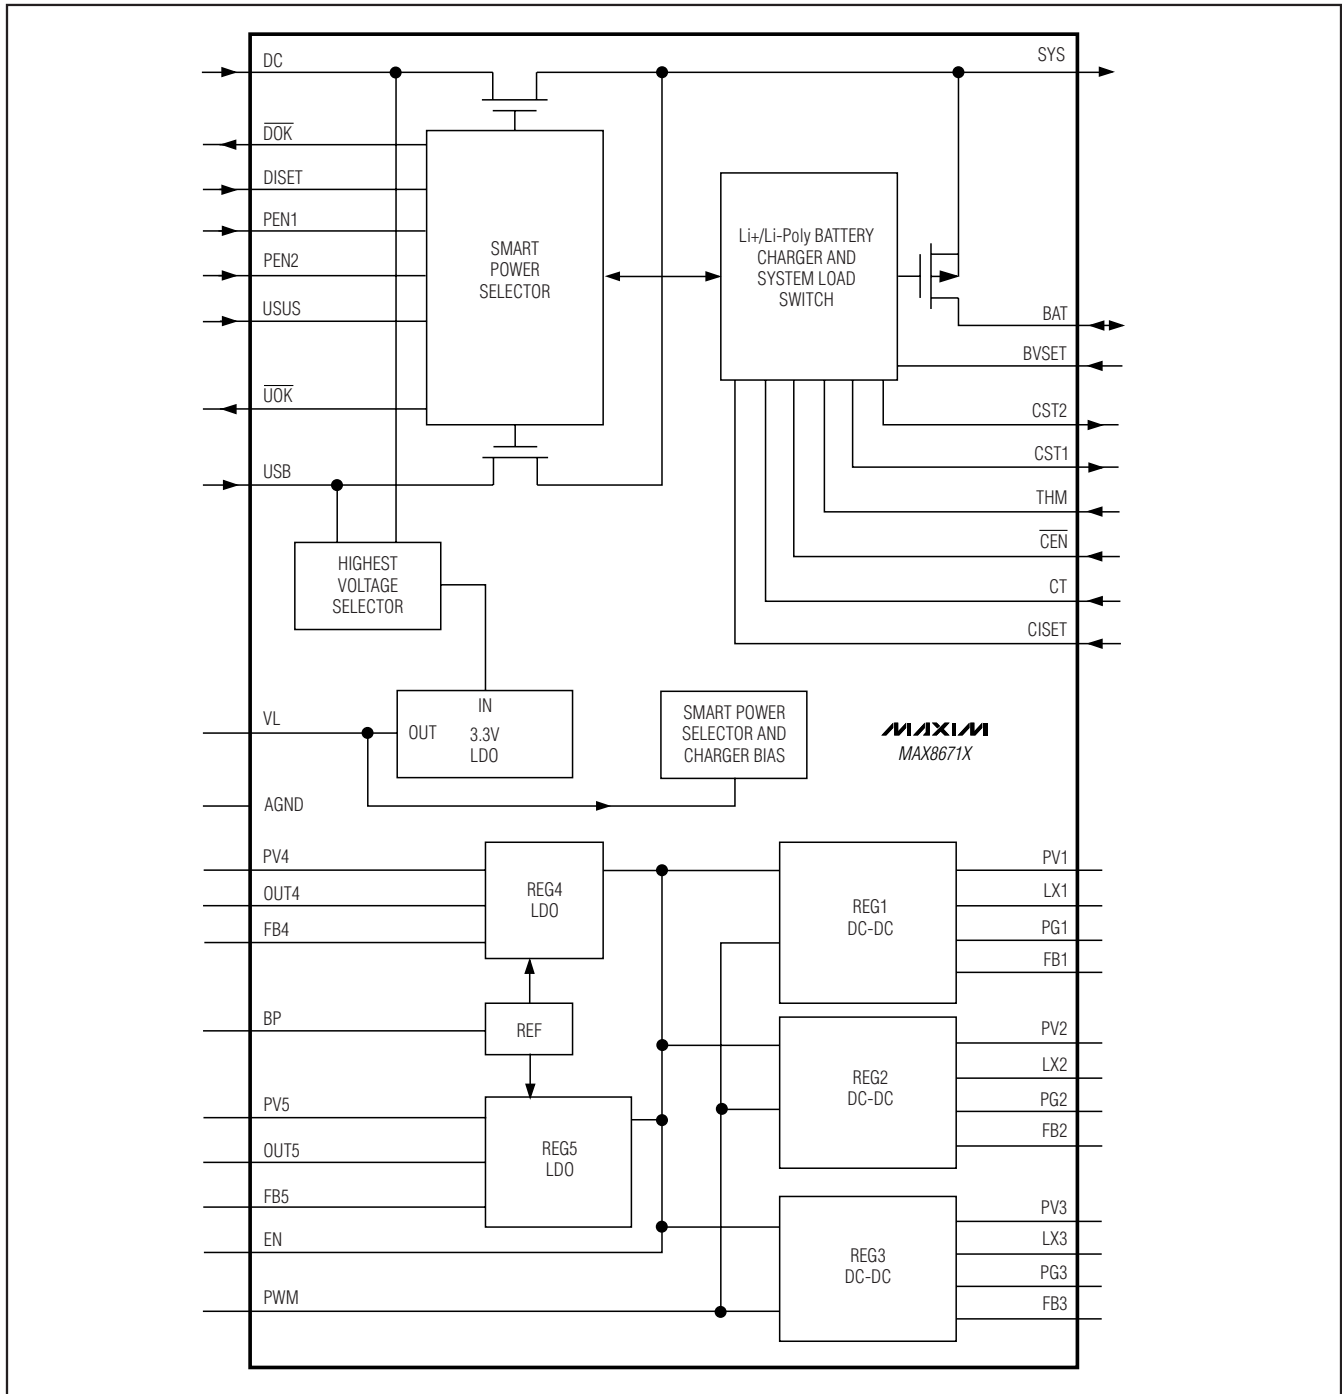

Figure 2. Functional Diagram
The MAX8671X highly integrated PMIC is ideally suited for use in portable audio player and handheld applications. As shown in Figure 2, the MAX8671X integrates USB power input, AC-to-DC adapter power input (DC), Li+/Li-Poly battery charger, three step-down regulators, two linear regulators, and various monitoring and status outputs. The MAX8671X offers adjustable output voltages for all outputs.